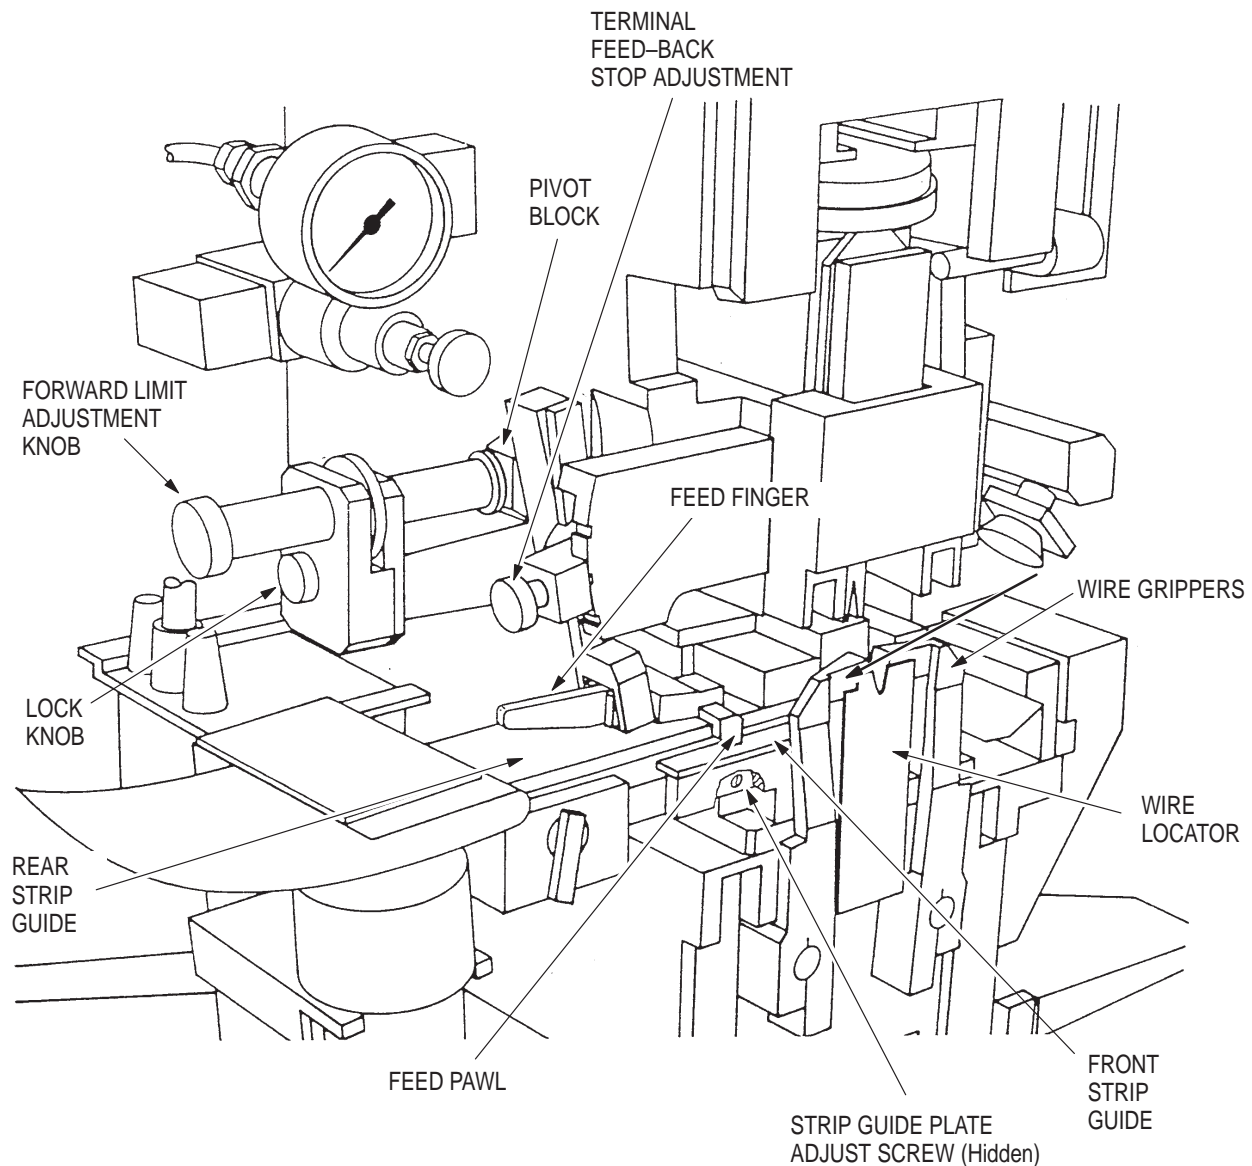

Figure 6-1. Terminal Strip Feed Adjustment Locations
6.3. Terminal Strip Feed Adjustment (Figure 6-1)
2. Loosen small lock knob under larger adjusting knob. See Figure 6-1.
6.4. Strip Guide Plate, Bell Mouth, and Feed Pawl Adjustments (Figure 6-1)
6.5. Strip Guide Adjustment (Figure 6-1)